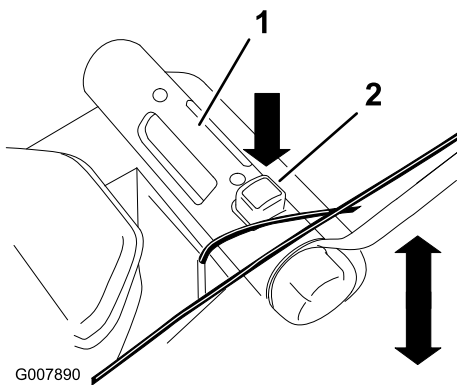

Figure 17
4. Press down on the cutting height adjustment button and hold the cutting height adjustment handle to move the cutting height up or down (Figure 17).